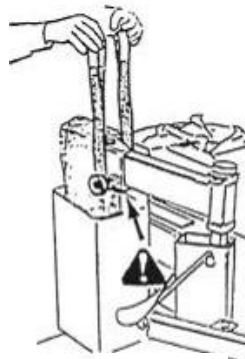

Fig. 5-1
① Make use of a 1m hoisting strap. Wrap the strap around the movable arm. (Fig.5-1)